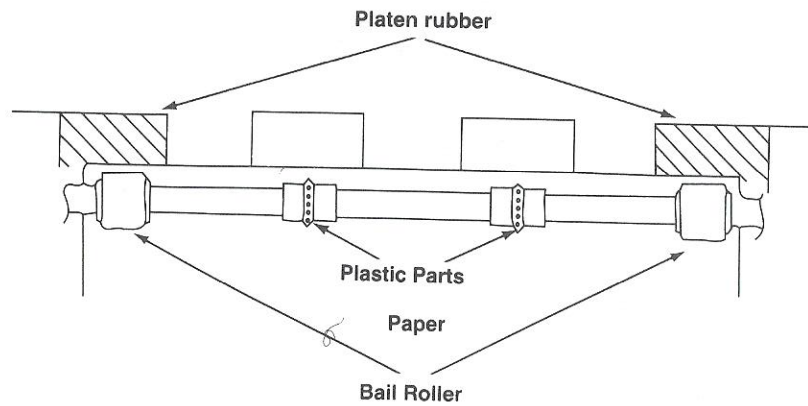

Figure 2-8. Paper in Print Position
- Now, position the left and right bail rollers so that they are over the platen rubber and within the width of the paper. Position the plastic parts as shown in Figure 2-8. These parts help to hold the paper in position.
8. Now, position the left and right bail rollers so that they are over the platen rubber and within the width of the paper. Position the plastic parts as shown in Figure 2-8. These parts help to hold the paper in position.